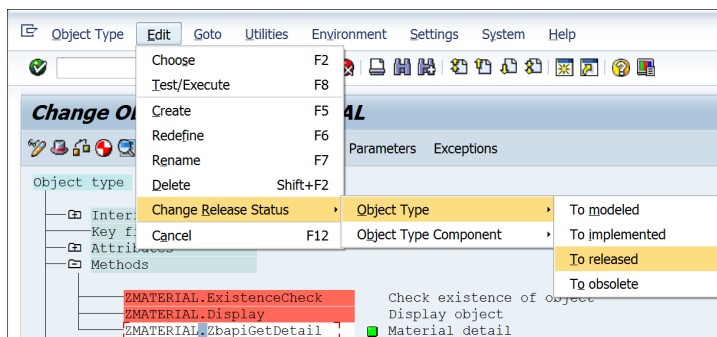

Figure 19.23 Change Release Status
7. You can repeat the steps to add more methods if required. After adding the required methods, generate the object by clicking the GENERATE button in the toolbar. After the object is successfully generated, change the release status of each method using the menu path EDIT • CHANGE RELEASE STATUS • OBJECT TYPE (see Figure 19.23). The method should be set to RELEASED status to be used by external applications.